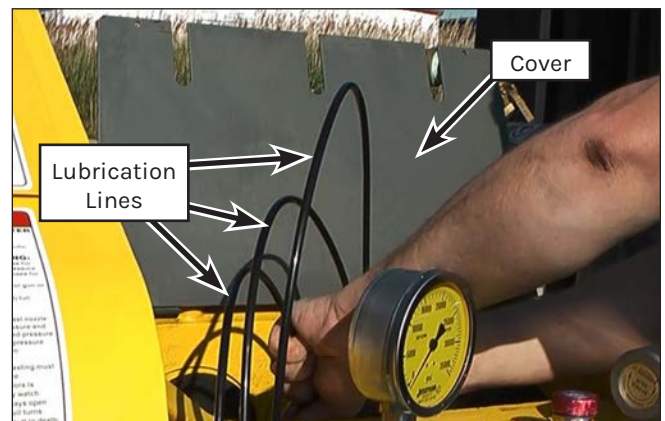

Figure 60: Disconnecting Lubrication Lines.
5. Open the rod box cover and disconnect the lubrication lines from the stuffing box fittings (Figure 60).